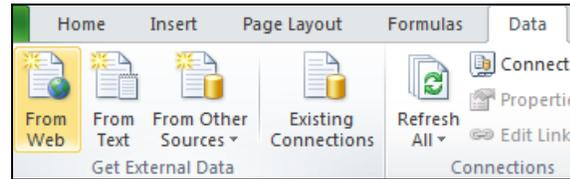

Figure 24: Import Data From Web
2. In newer versions of Microsoft Excel, click the **Data** tab, and then click **From Web** (Figure 24).